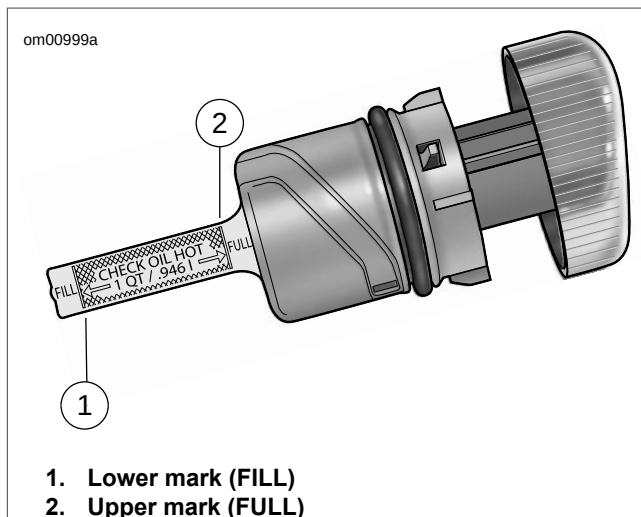

Figure 1-3. Dipstick
5. See Figure 1-3. Remove the filler cap and check the hot oil level on the dipstick.